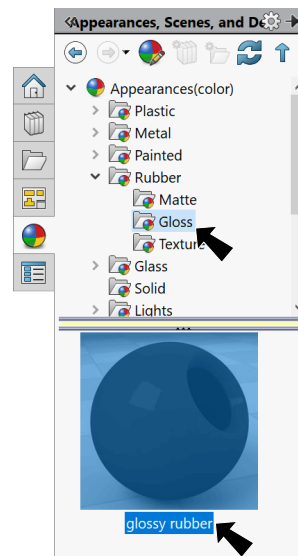

Fig. 21
Step 2. In the Appearances Task pane, expand **Rubber**, click **Gloss** and in the lower pane select **glossy rubber**, Fig. 21.